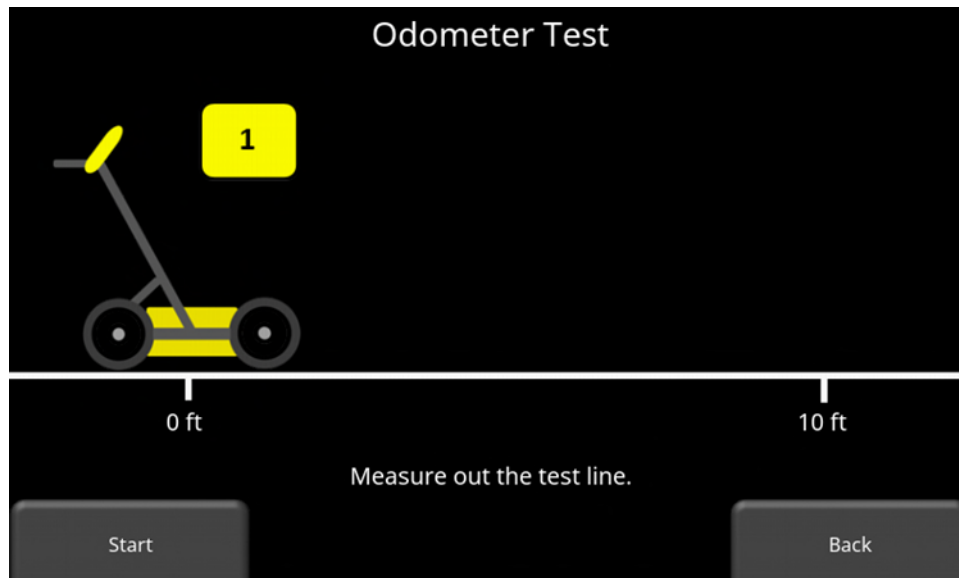
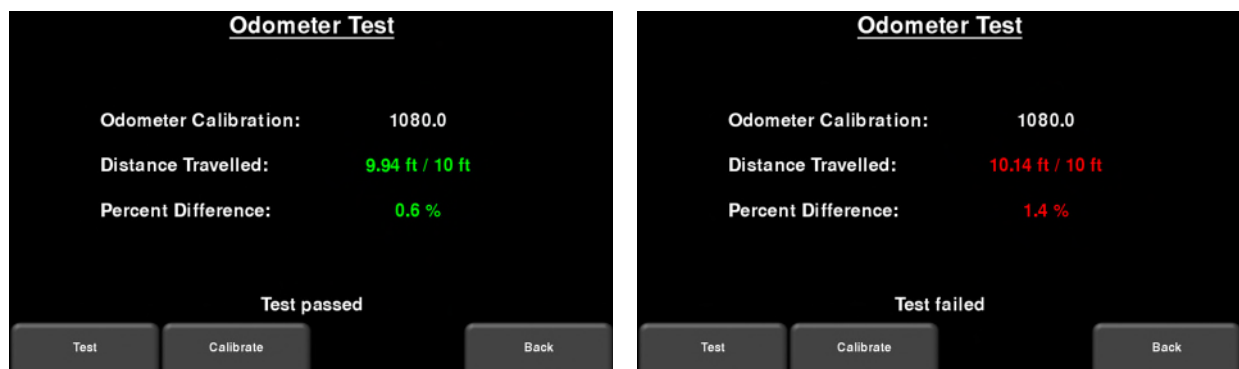

Figure 4-17: Doing an odometer test
Figure 4-18: Odometer Test passed on left, failed on the right
- **Odometer Test** – This test verifies the odometer is calibrated properly. It involves moving the system a set distance (5m or 10', depending on units used), and comparing the value obtained to a known value. The screen in Figure 4-17 will be displayed once Odometer Test is pressed. Press **Start** to begin and then press **Finish** when you've moved that distance. It will display a pass or fail, along with a percentage difference from the known value (Figure 4-18).